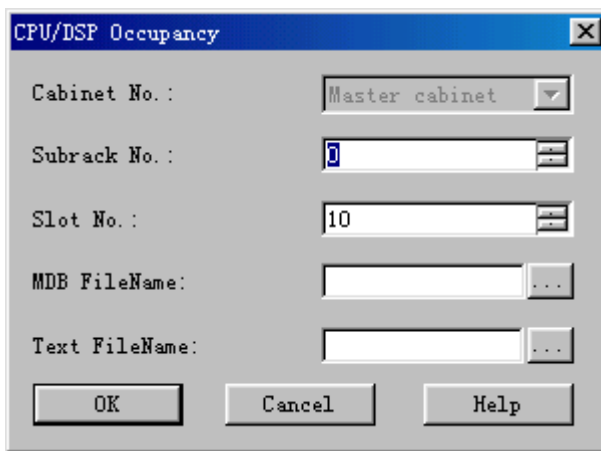

Figure 9-1 CPU/DSP Occupancy dialog box
- 3) The system displays the **CPU/DSP Occupancy** dialog box, as shown in Figure 9-1.